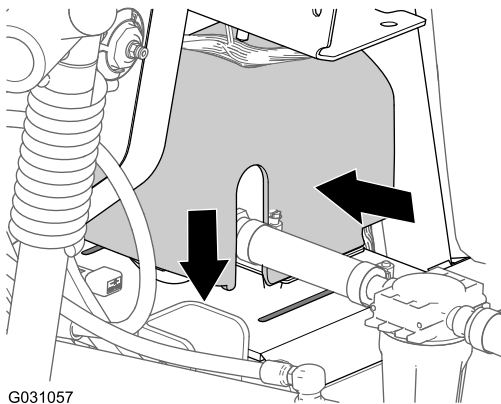

Figure 182
2. Align the rinse-pump cover over the saddle plate for the rinse pump (Figure 182).
3. Press together the sides of the rinse-pump cover and align the tabs of the cover with the saddle plate (Figure 182).
4. Insert the tabs into the slots and release the sides of the cover (Figure 182).